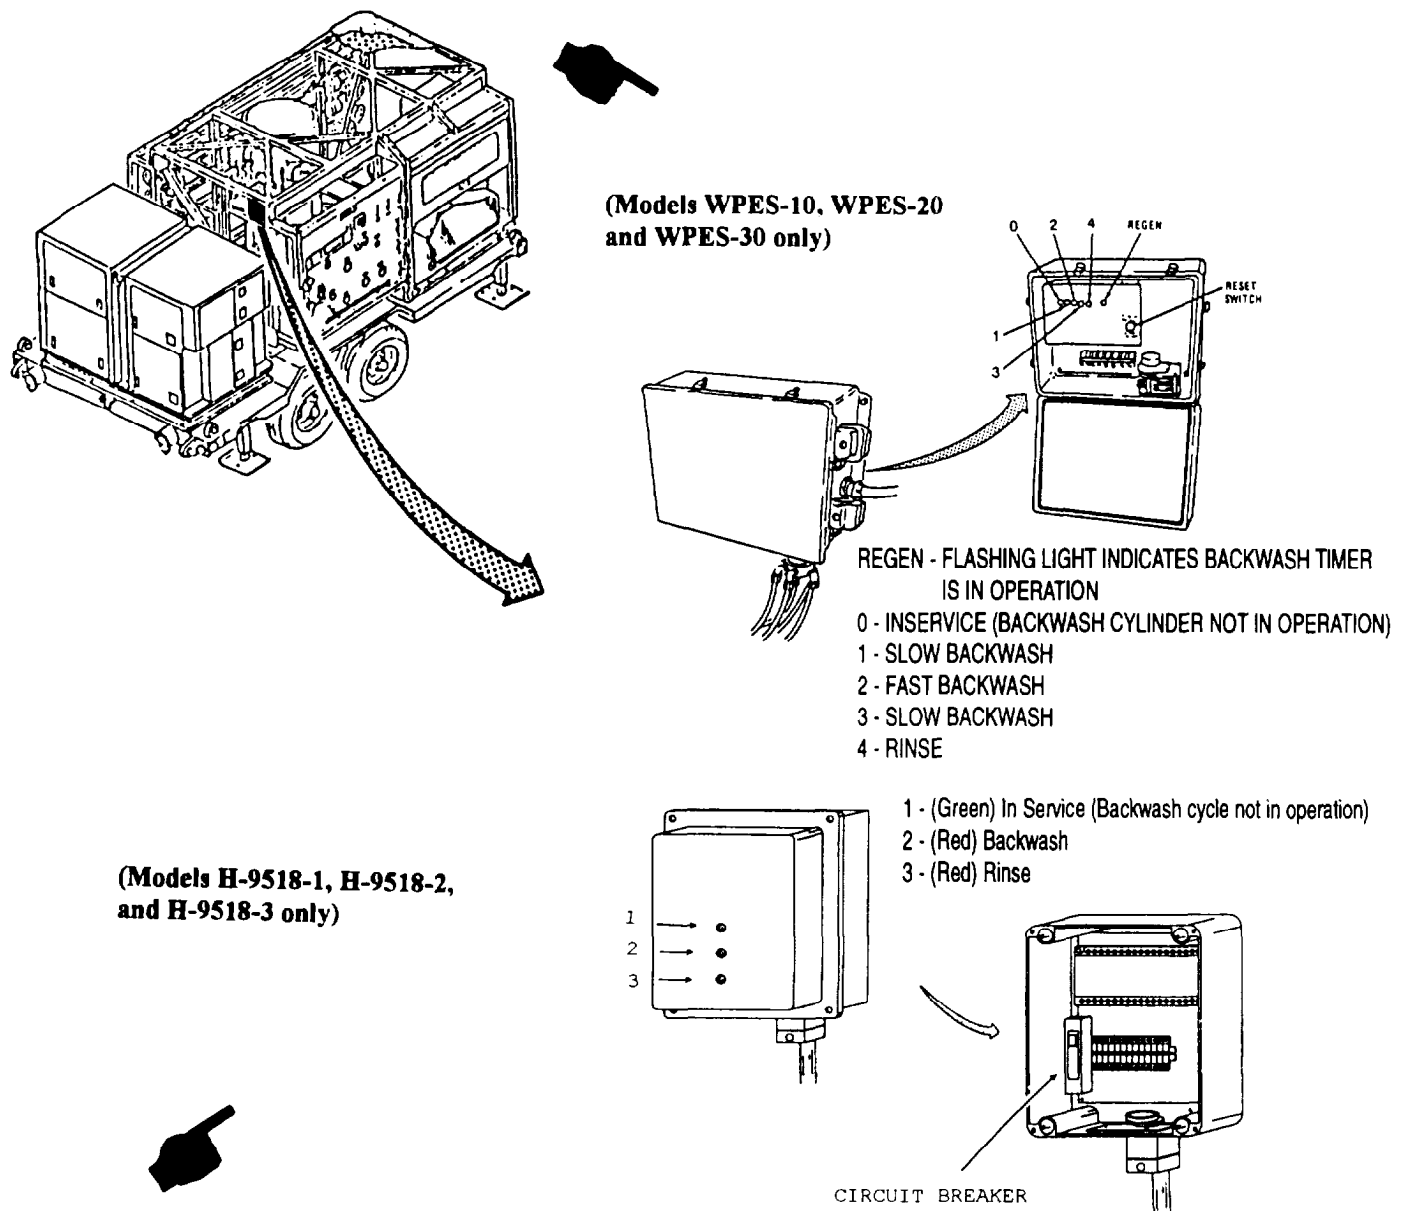

Figure 2-15. Backwash Timer.
- n. Backwash Timer. Refer to figure 2-15. The backwash timer is mounted on the rear of the multimedia filter. It automatically starts and stops the different stages of the backwash cycle. Indicator lights inside the timer cover (Models WPES-10, WPES-20, and WRES-30) or on the outside of the timer (Models H-9518-1, H-9518-2, and H-9518-3) show which stage of the backwash cycle the unit is in. An OVER CURRENT PROTECTION PUSH TO RESET button resets the backwash cycle on Models WPES-10, WES-20, and WPES-30. A circuit breaker resets the backwash cycle on Models H-9518-1, H-9518-2, and H-9518-3. No operator control is required.